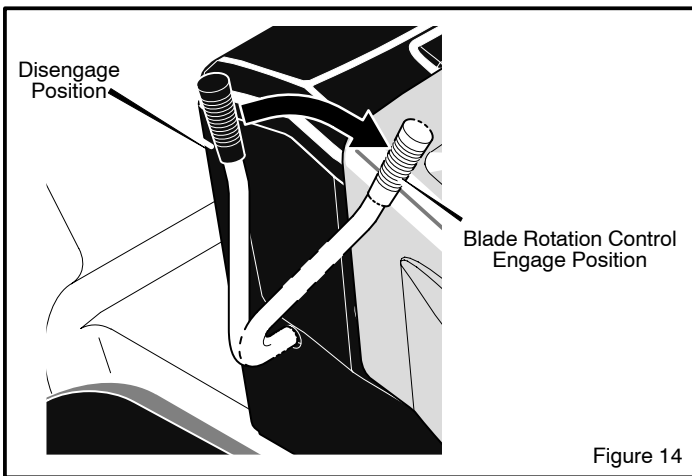

Figure 14
2. Move the **blade rotation control** to the **DISENGAGE** position (Figure 14).